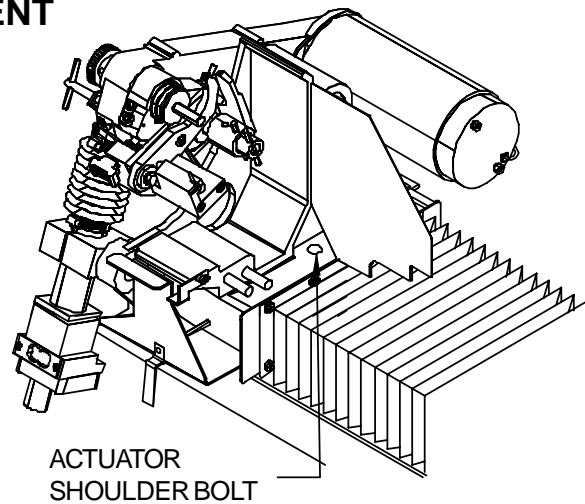

FIG. 11
STEP 1—Remove the shoulder bolt from the top side of carriage. See FIG. 11.